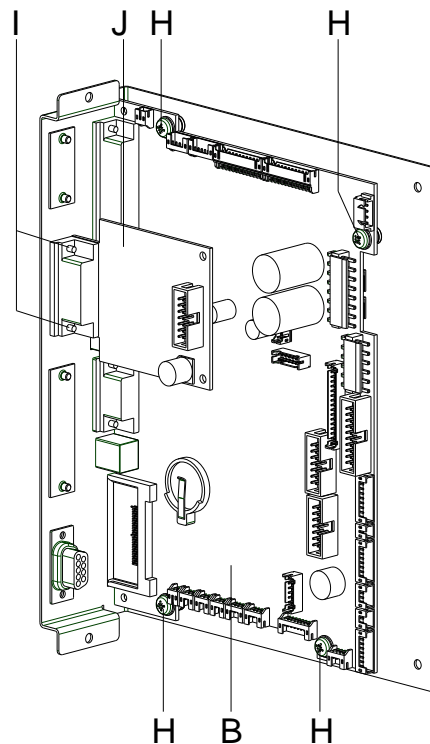

Figure 12
1. Remove the screws (H, Figure 12).
2. Remove the hexagonal bolts of serial and parallel interface bushings of CPU (B) at connection plate.
3. Remove the CPU (B).